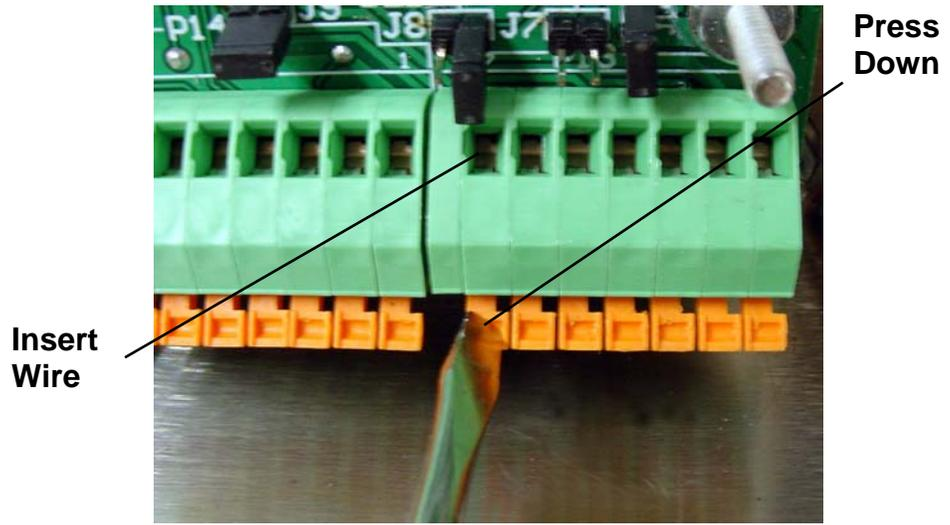

Figure No. 5
8. To terminate a wire, use a small flat blade screwdriver and press down on the release bar for the terminal. Insert the wire into the opening and remove the screwdriver, allowing the release bar to return to its original position, locking the wire in place. See Figure No. 5.
7. To terminate a wire, use a small flat blade screwdriver and press down on the release bar for the terminal. Insert the wire into the terminal opening. Remove the screwdriver, allowing the release bar to return to its original position, locking the wire in place. See Figure No. 5.